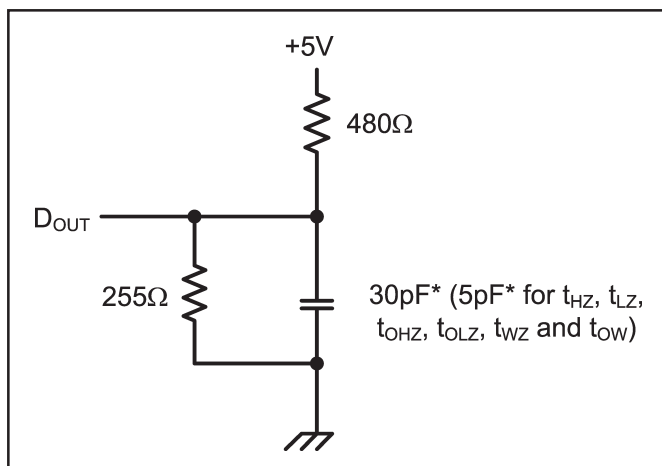

Figure 1. Output Load
- 8. Transition is measured  $\pm 200mV$  from steady state voltage prior to change, with loading as specified in Figure 1. This parameter is sampled and not 100% tested.
Output Load	See Figures 1 and 2